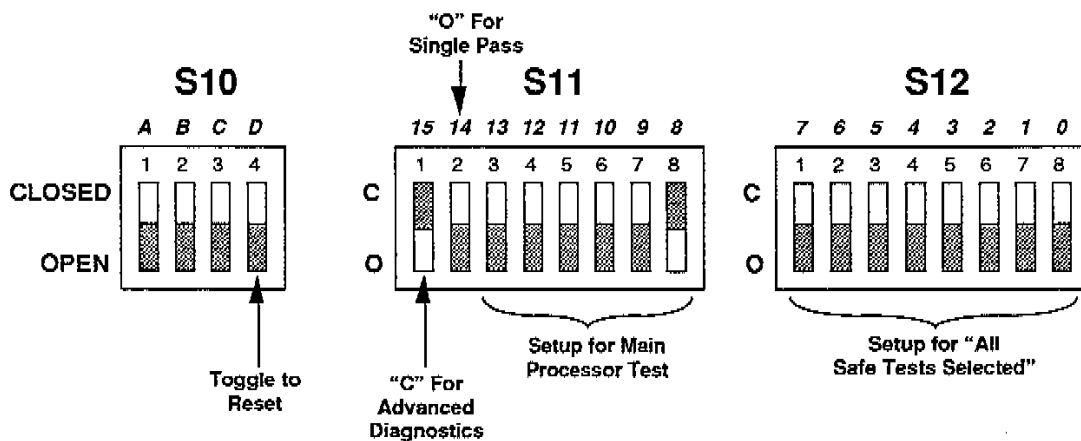

Figure 4-9. Switch settings for Main Processor, Single Pass, All Safe Tests.
Figure 4-9 shows how to set S11 and S12 for Advanced Diagnostics. Switch #15 selects between normal operation (power-up diagnostics) and Advanced Diagnostics. This switch is OPEN (O) for normal operation. Switch #14 chooses Single Pass (O) or Looping (C). Positions 8 – 13 select which module is tested and positions 0 – 7 select the test to be performed. Table 4-18 summarizes the switch definitions.